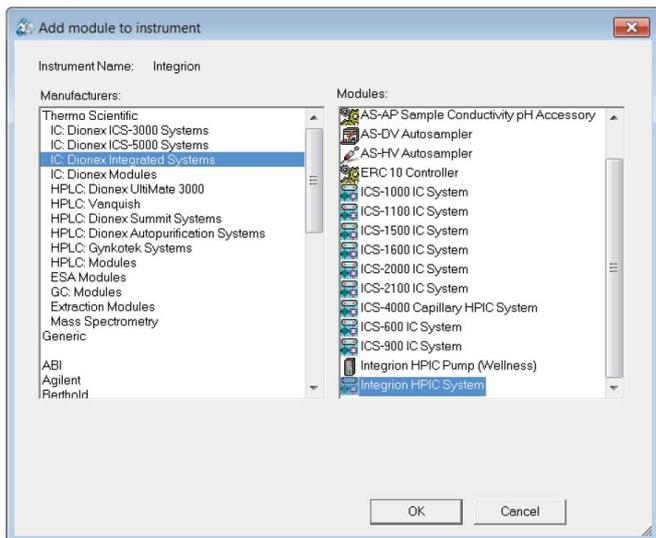

Figure 2. Creating a configuration.
1. Select *Add a Module, IC: Dionex Integrated Modules, and Integrion HPIC System* (Figure 2).